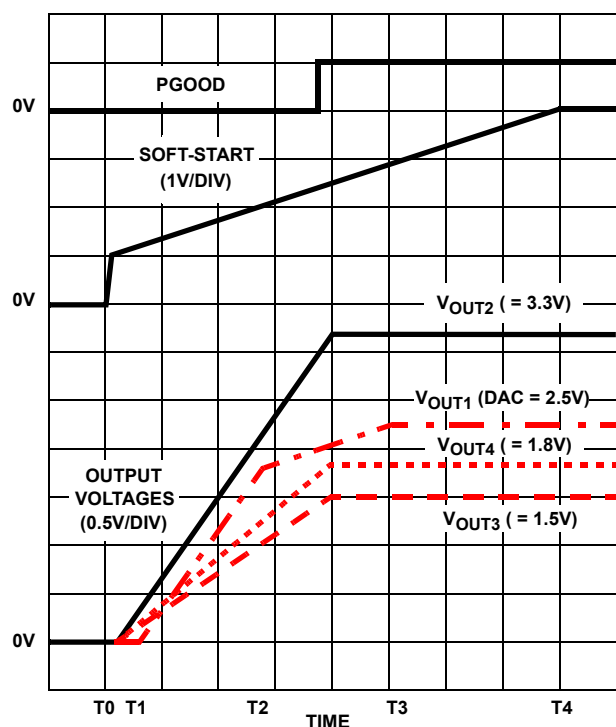
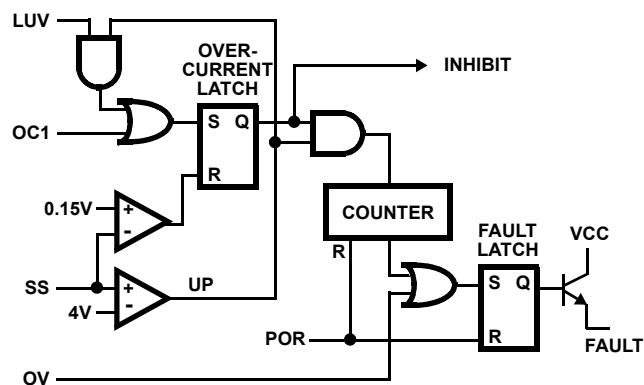

FIGURE 3. SOFT-START INTERVAL
FIGURE 4. FAULT LOGIC - SIMPLIFIED SCHEMATIC
Figure 3 shows the soft-start sequence for the typical application. At T0 the SS voltage rapidly increases to approximately 1V. At T1, the SS pin and error amplifier output voltage reach the valley of the oscillator's triangle wave. The oscillator's triangular wave form is compared to the clamped error amplifier output voltage. As the SS pin voltage increases, the pulse-width on the PHASE pin increases. The interval of increasing pulse-width continues until each output reaches sufficient voltage to transfer control to the input reference clamp. If we consider the 2.5V core output (V_{OUT1}) in Figure 3, this time occurs at T2. During the interval between T2 and T3, the error amplifier reference ramps to the final value and the converter regulates the output a voltage proportional to the SS pin voltage. At T3 the input clamp voltage exceeds the reference voltage and the output voltage is in regulation.
Figure 4 shows a simplified schematic of the fault logic. An over-voltage detected on VSEN1 immediately sets the fault latch. A sequence of three over-current fault signals also sets the fault latch. The over-current latch is set dependent upon the states of the over-current (OC), linear under-voltage (LUV) and the soft-start signals. A window comparator monitors the SS pin and indicates when C_{SS} is fully charged to 4V (UP signal). An under-voltage on either linear output (VSEN2, VSEN3, or VSEN4) is ignored until after the soft-start interval (T4 in Figure 3). This allows V_{OUT2} , V_{OUT3} , and V_{OUT4} to
Initially, the soft-start function clamps the error amplifier's output of the PWM converter. This generates PHASE pulses of increasing width that charge the output capacitor(s). After the output voltage increases to approximately 70% of the set value, the reference input of the error amplifier is clamped to a voltage proportional to the SS pin voltage. The resulting output voltages start-up as shown in Figure 3.